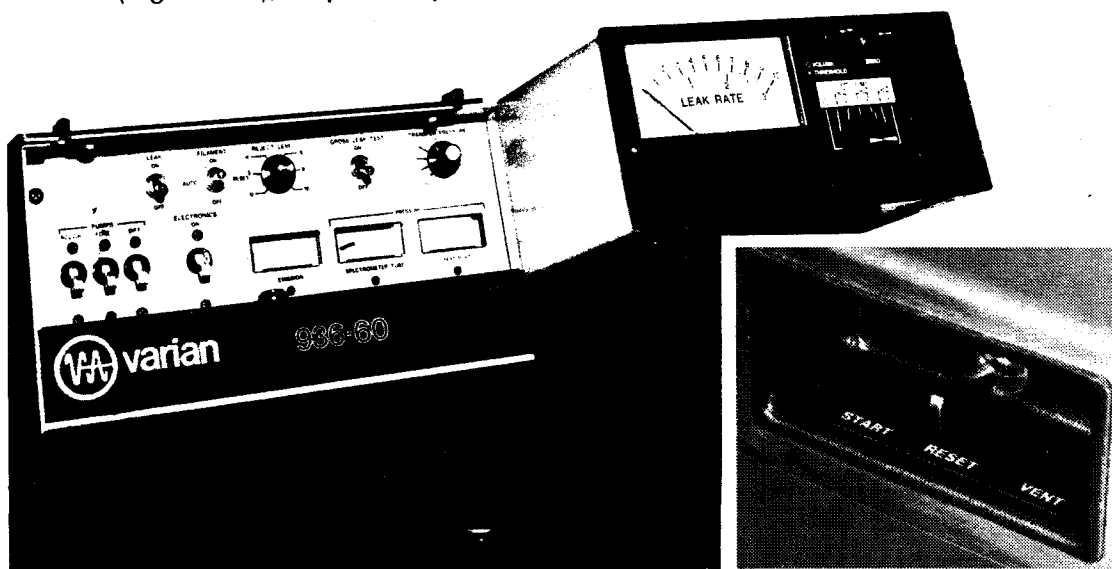
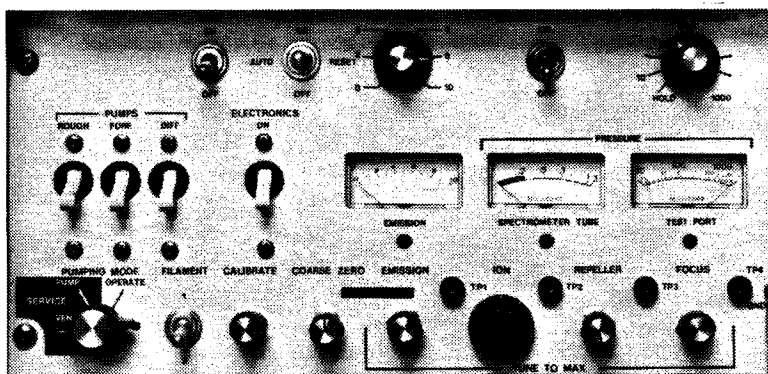
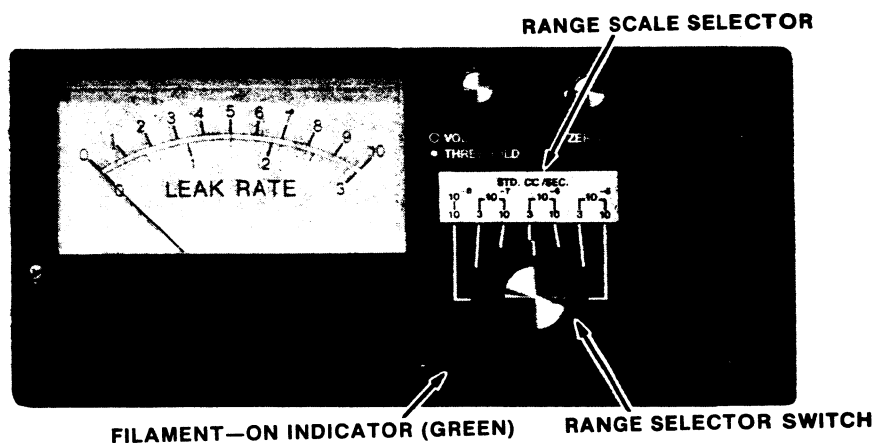

Figure 4-1. Leak Detector Controls
Figure 4-2. Control Panel Controls and Indicators
Figure 4-3. Leak Indicator Panel
Figures 4-1 through 4-3 show the leak detector operating controls and indicators. Tables 4-2 and 4-3 describe the operation of controls and indicators on the Control Panel (Figure 4-2) and the Leak Indicator Panel (Figure 4-3), respectively.
Control Panel (Fig. 4-2)
Leak Indicator Panel (Fig. 4-3)
- (3) Plug machine into appropriate receptacle. The compressor (if present) will start. Some of the panel lamps will light, indicating that the pumps and the filament are off.
- (4) If no compressor is built into the machine, connect a source of compressed air to the 1/4 inch (NPT) port at the left corner of the rear of the machine.
- (5) Turn on the PUMPS circuit breakers (Figure 4-2) for the ROUGH, FORE, and DIFF pumps. The respective RP OFF, BP OFF, and DP OFF warning lamps on the Leak Indicator Panel turn off as each pump turns on. The diffusion pump lamp (DP OFF) remains lighted until the pressure in the diffusion pump foreline has been sufficiently reduced (approximately 1 minute) and sufficient cooling air prevails.
- (6) Allow 30 minutes for the diffusion pump to warm up, then place the ELECTRONICS circuit breaker in the ON position. Verify that the SPECTROMETER TUBE PRESSURE meter reads upscale, then turn the PUMPING MODE switch to the OPERATE position.
- (7) When the SPECTROMETER TUBE PRESSURE meter shows 0.5 millitorr, pour a little liquid nitrogen into the cold trap. When the pressure is in the green band (on meter), fill the trap.